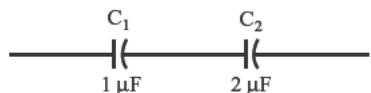

FIGURE 1.19
- 42** Capacitors can be placed in series, as shown in Figure 1.19.
- B. In Figure 1.19, what is the total capacitance? _____